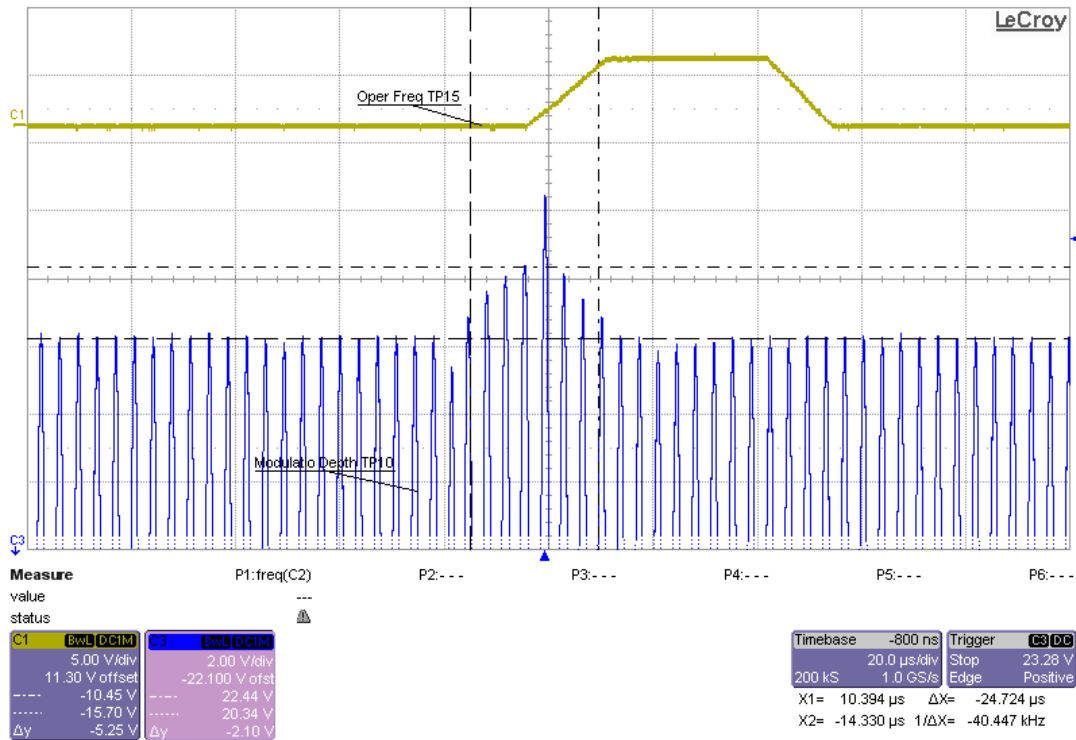

Figure 3. Modulation Depth in PMA System
- A good PMA modulation depth plot is shown in Figure 3.